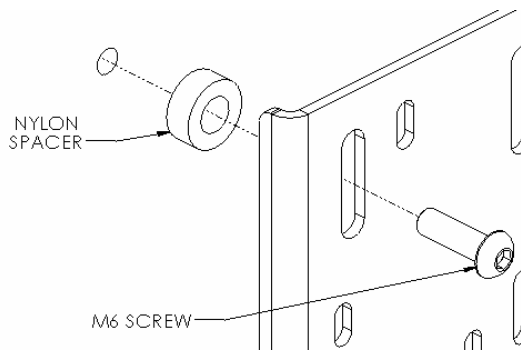
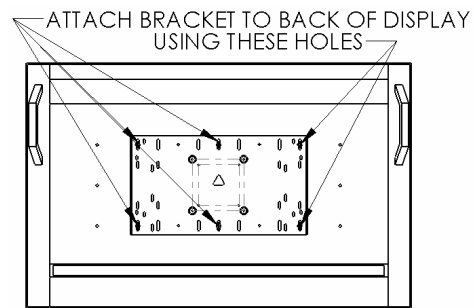

Figure 4
Figure 5
3. Attach bracket to back of display using the M6 screws (see Figure 4 & Figure 5). The vertical slots of bracket can be used for any height adjustment that may be needed. Do not over tighten screws.